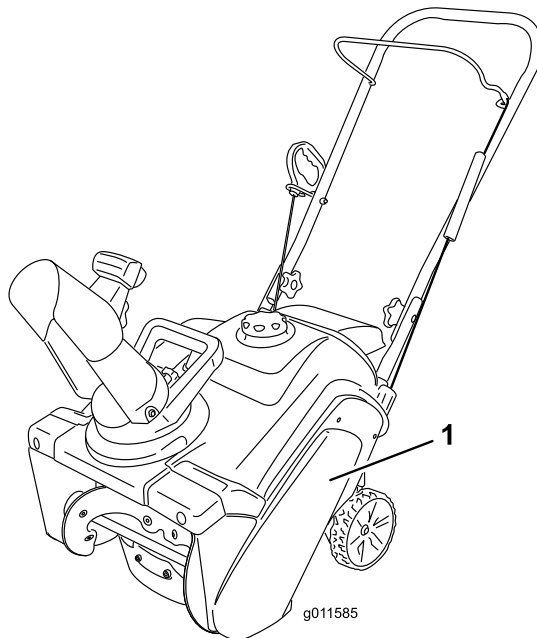

Figure 32
1. Remove the 4 bolts that hold the drive belt cover (Figure 32) in place.